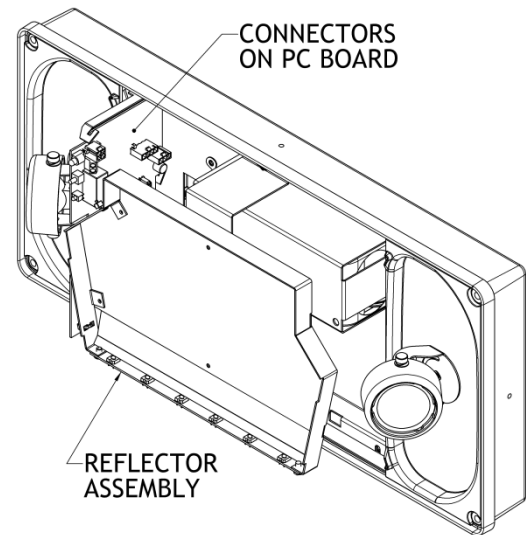

Figure 1
Installation (Figs. 1, 2, 3)
- A single momentary actuation of the laser-activated TEST PHOTODETECTOR (see fig.1) or the manual TEST PUSHBUTTON will initiate a one-minute test. The normally off emergency lamps will come on and the STATUS/TEST INDICATOR will display single green flashes, signaling a test is in progress.